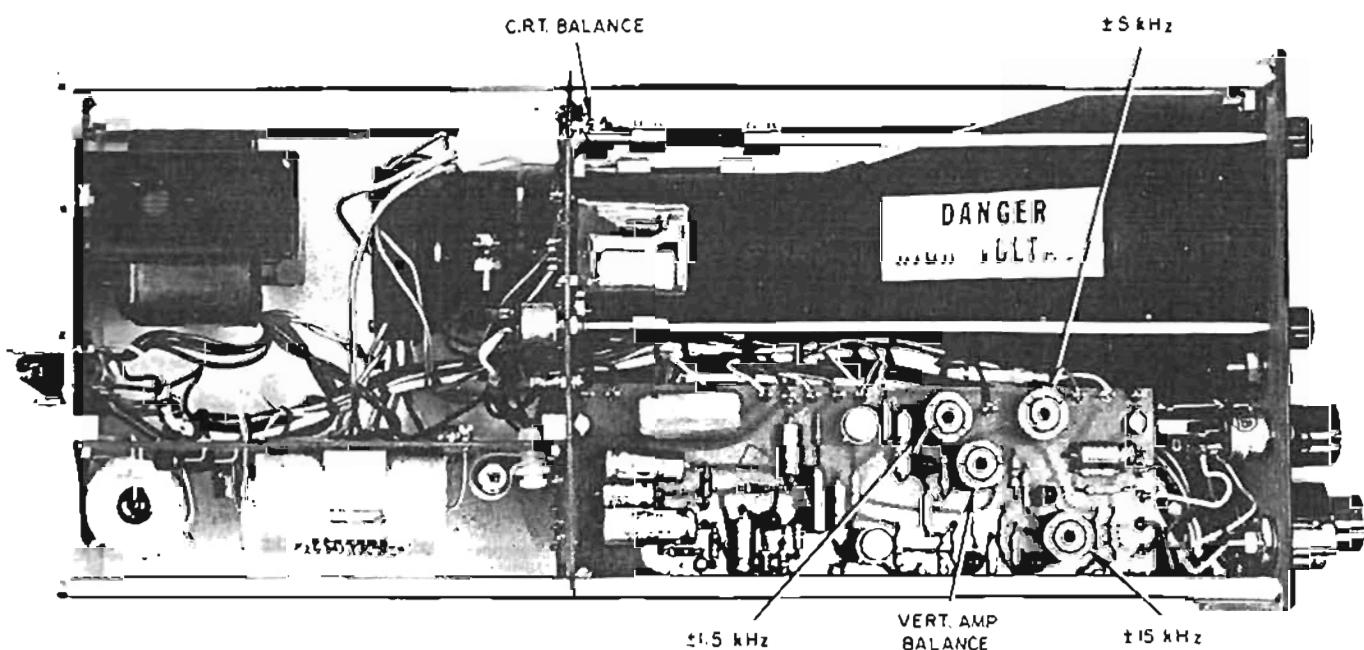

Figure 4-1. Model 301 Oscilloscope, Left-Side View of Interior
There are six internal adjustments in the Model 301 Oscilloscope. Controls for these adjustments are located as shown in Figures 4-1 and 4-2. The adjustments (except the horizontal gain adjustment) are made with the Model 301 plugged into the CE-3 or CE-7 Monitor and operating. The controls shown in Figure 4-1 can be reached by removing the left-hand CE-3 or CE-7 cover, as described in the maintenance section of the Monitor Manual. The only test equipment required is an unmodulated transmitter operating on any frequency covered by the Monitor. Unless otherwise stated, the controls mentioned in the following procedures are on the Model 301 Oscilloscope.
- d. Switch to the ± 1.5 -kHz range and adjust the position of the trace to the same point noted above, using the vertical amplifier balance control (see Figure 4-1).
4.1.3 CRT Balance. If the trace is not on the zero reference line after adjusting the vertical amplifier balance control, adjust the CRT balance control until the trace is on the zero reference line. (See Figure 4-1 for location of the CRT balance control.) This control centers the range of the front-panel VERT. POS. control.